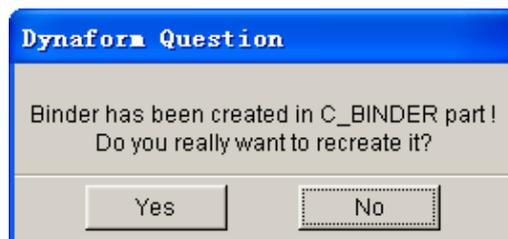

Figure 6.2.9 DYNAFORM QUESTION dialog box
5. If a binder has already been created in the C_BINDER part, a DYNAFORM QUESTION dialog box as illustrated in Figure 6.2.9 is displayed.